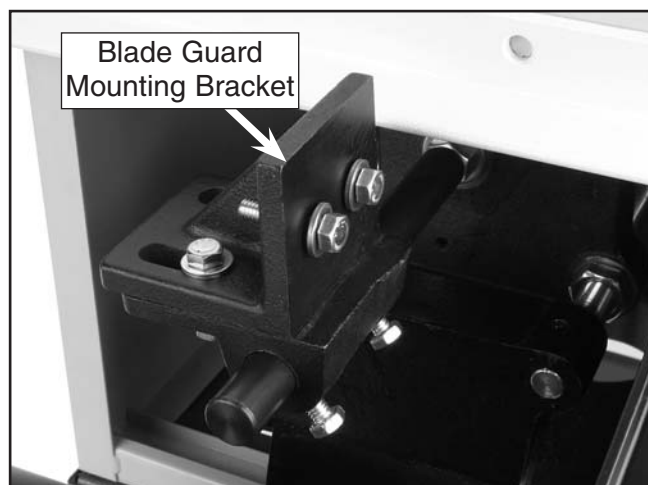

Figure 25. Blade guard mounting assembly.
2. Slide the blade guard mounting bracket onto the end of the shaft (**Figure 25**).